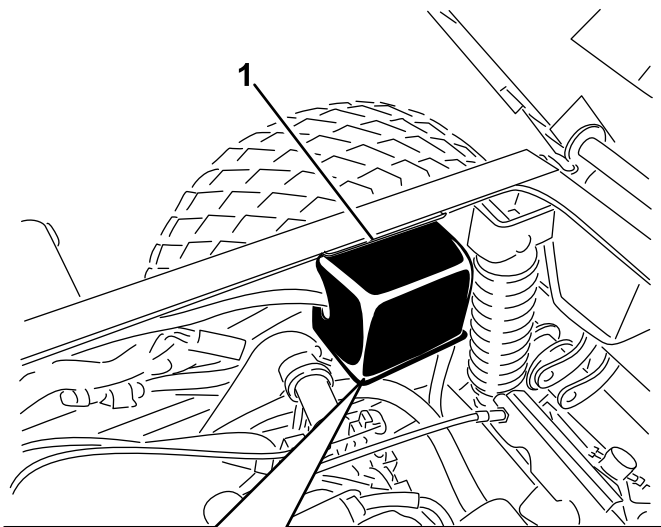

Figure 4
2. Remove the electrical cover located along the right side of the frame to gain access to the regulator and wiring (Figure 4).
4. Disconnect the regulator from the vehicle harness and connect it to the rear key start harness (Figure 4).
5. Connect the rear key start harness to the vehicle harness (Figure 4).